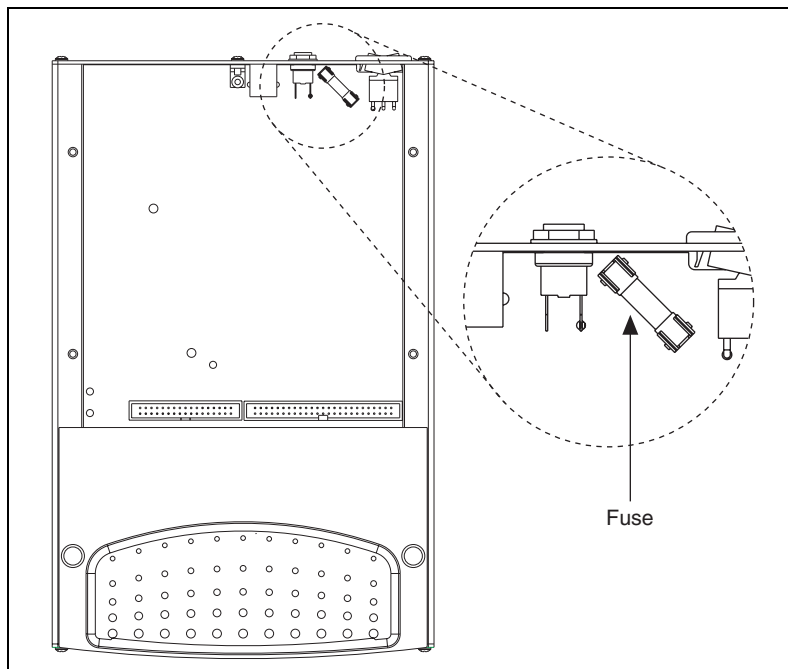

Figure 3-2. USB-62xx Screw Terminal Fuse Location
3. Replace the fuse while referring to Figure 3-2 for the fuse location.